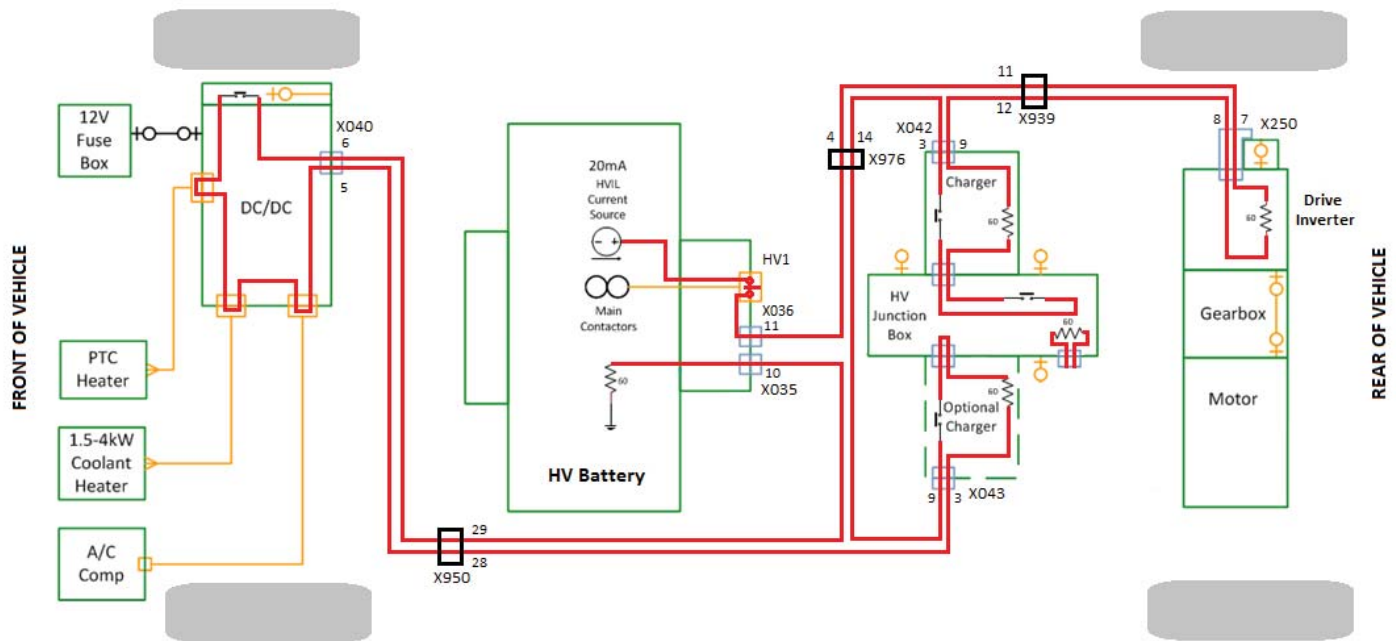

Figure 1
The High Voltage Interlock Loop (HVIL) routes through every high voltage (HV) component and HV connector in the vehicle. Figure 1 shows the HVIL circuit (in red), the HV components (in green), and some of the HV harness connectors.